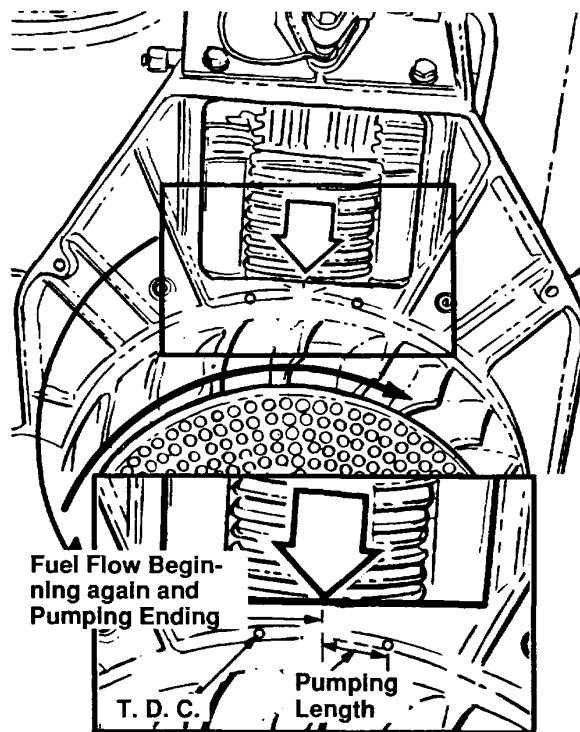

Figure 7-9. Pumping Length
a. After noting the pumping start with accelerator lever in maximum speed position, proceed as follows: Slowly rotate the flywheel until the fuel begins to come out again from the pump delivery connector. At this moment the pumping action ends, and the distance between the circular mark stamped on the flywheel and the crankshaft support must be 37 mm or 1.457 in., fig 7-9.